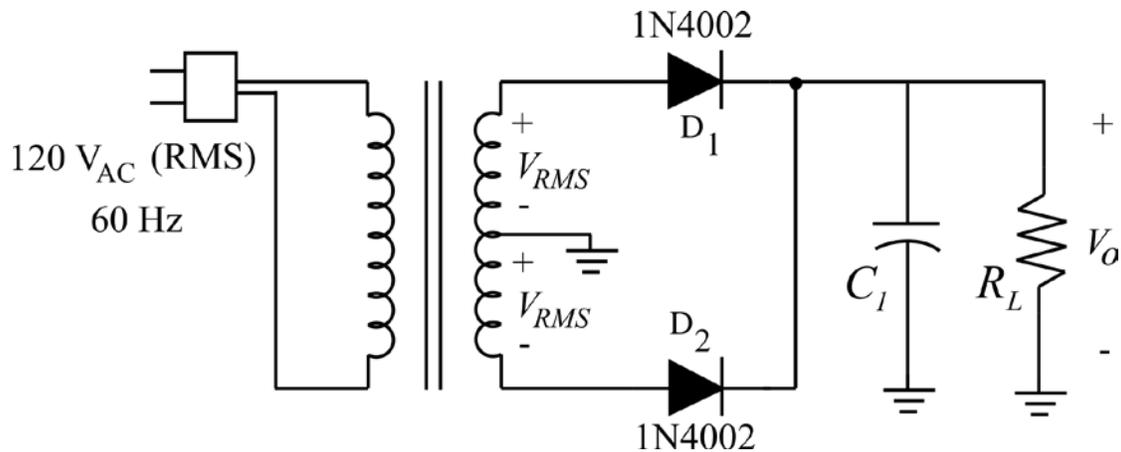

Figure 6: Schematic of the power supply to be designed.
- The circuit shown in Figure 6 demonstrates the full-wave rectifier design for this part of the lab. The rectifier/filter circuit design will require approximately 16 V_{DC} @ 130 mA output capability, with a peak-to-peak voltage ripple less than 0.5 V. It is shown in the textbook that for a full-wave rectifier the ripple voltage is [1]
2. Construct the circuit of Figure 6. Have your lab partner(s) check over the circuit to make sure the connections are right. Energize the circuit. Using the oscilloscope, observe the output voltage. **Sketch the output waveform, and measure both the peak-to-peak ripple voltage and the dc average voltage.**